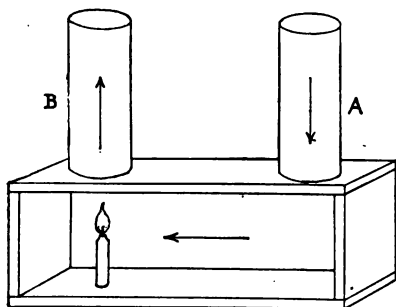

FIG. 28.—CONVECTION IN GASES
**76. Convection in Gases.** In the case of gases (Fig. 28), a heating of the column of air at the left by the candle flame makes the air column *B* less dense than *A*; therefore column *A* presses down harder than *B* and forces upwards the warm air in *B*. (The front of the box is of glass.) Air will pass up *B* even with the box and *A* removed, as there is cold air on all sides of the candle.
There may be two chimneys of different heights in adjoining rooms (compare Fig. 28), so that when a fire is burning at the bottom of one it may be difficult to start a fire in the other, which has been acting as a course for the cold air downwards.